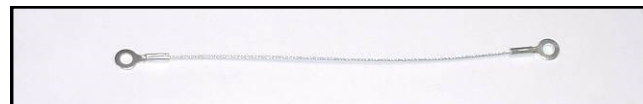

Fig. 16.3 (wire cable stop for soft sided doors)
16.3 **SOFT SIDED DOORS ONLY:** install the wire cable stops to the side frames and doors using two 5/16 x 3/4” long hex head bolts, two steel washers, and two locknuts oer side. Leave locknuts loose enough that cable ends can still rotate when door is opened and closed. See fig. 16.3. **Warning: do not attempt to install gas shocks on soft sided doors. Damage to the door will result.**